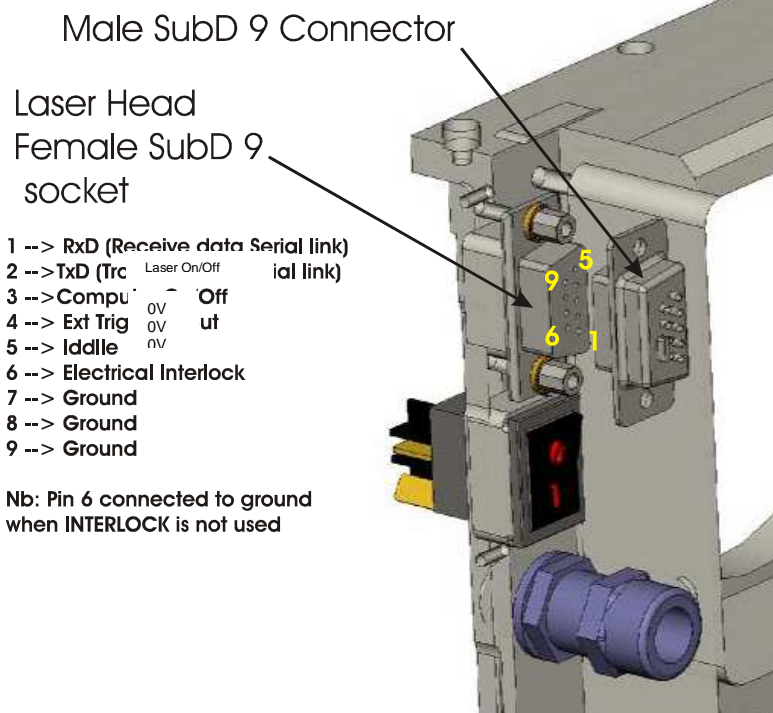

Figure 14: DSub 9 pins connector as shipped
The image of the optical pulse can be read in parallel through a BNC connector on the front of the laser under the condition that the readout configuration is 50 Ohms terminated. If this output is not used, plug the 50 Ohms charge delivered with the laser on the BNC connector figure 14.
- As the BNC outer shell (signal return path) is connected to housing, it is mandatory to connect case to 0V in a Star-Ground scheme (possibly at the 0V power supply output – see figure 14).